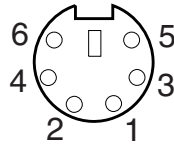

Figure 12. BladeCenter T Keyboard connector
- **Keyboard connector:** The BladeCenter T KVM module contains one PS/2 keyboard connector (see Figure 12).